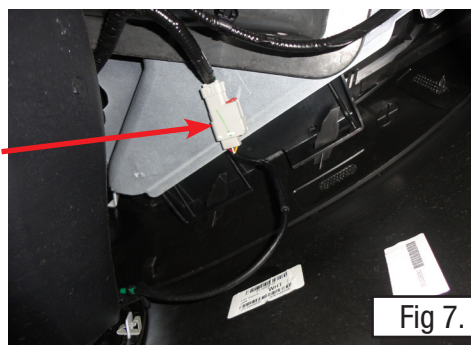

Fig 7.
9. If the vehicle is equipped with the front parking cameras in the nose, they will need to be unplugged. The wire harness plug is located in front of the inner fender well (Fig. 7). There is plug on each side of the car.